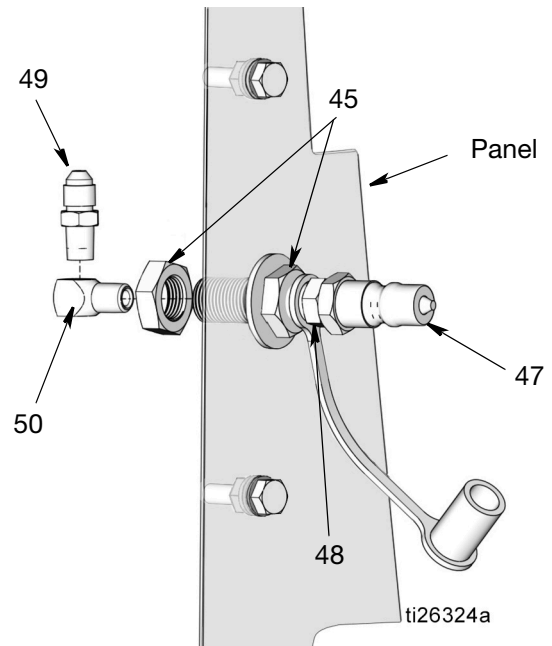

FIG. 50
6. Apply thread sealant to threads of connector (49). Install bulkhead fitting (45) to the connector (49). Remove mounting nut.
7. Install bulkhead fitting (45) through bulkhead hole drilled in Step 1. Reinstall mounting nut over end of bulkhead fitting to secure bulkhead fitting to the truck (FIG. 50).
NOTE: When installing the bulkhead fitting (45) make sure connector (49) is oriented upward as shown in FIG. 50